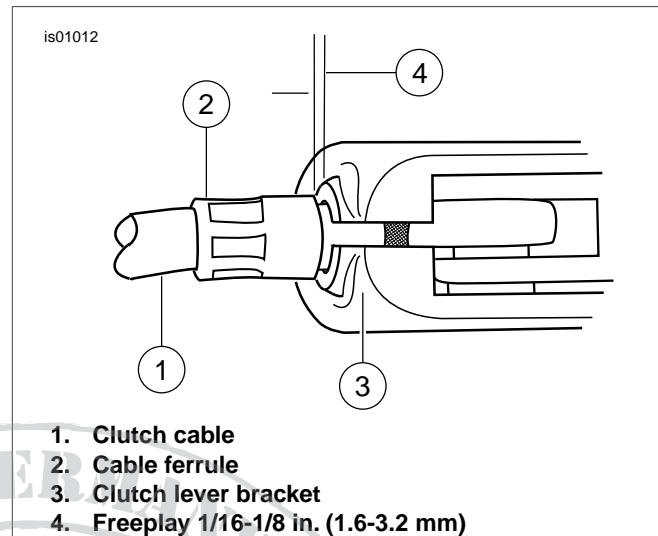

Figure 5. Clutch Hand Lever
- b. See Figure 5. Pull clutch cable ferrule (2) away from clutch lever bracket (3) to check free play. Turn cable adjuster as necessary to obtain $1/16$ - $1/8$ inch (1.6-3.2 mm) free play between end of cable ferrule and clutch lever bracket.